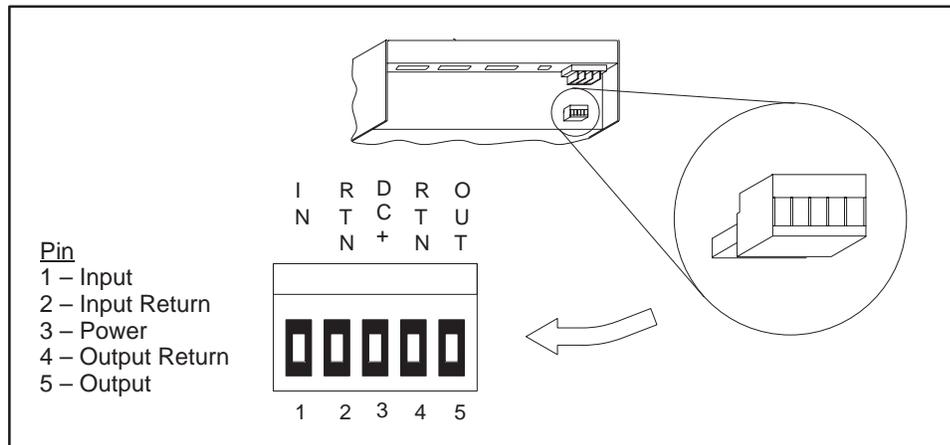

Figure 6-5 External I/O Loopback Test Connections
1. Install a 20.0 to 30.0 VDC power supply to the output power terminal (#3) shown in Figure 6-5.
If the External I/O loopback test fails, the pattern shown in Figure 6-4 will be displayed on the LEDs. Check the connections shown in Figure 6-5 and retest. If the test continues to fail, return the unit for repair.